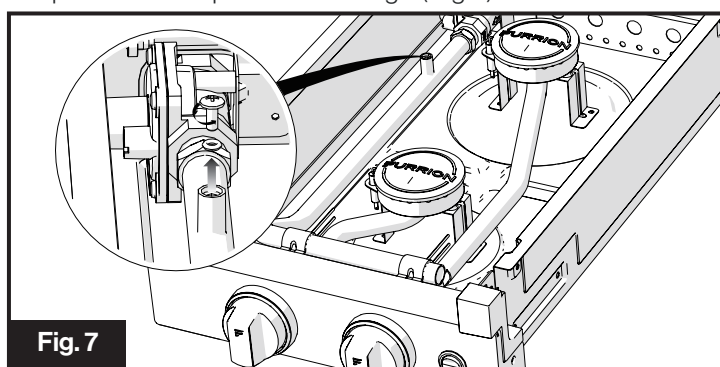

Fig. 7
2. Remove the Screw with the sealing gasket from the pressure test port on the range.(Fig.7)